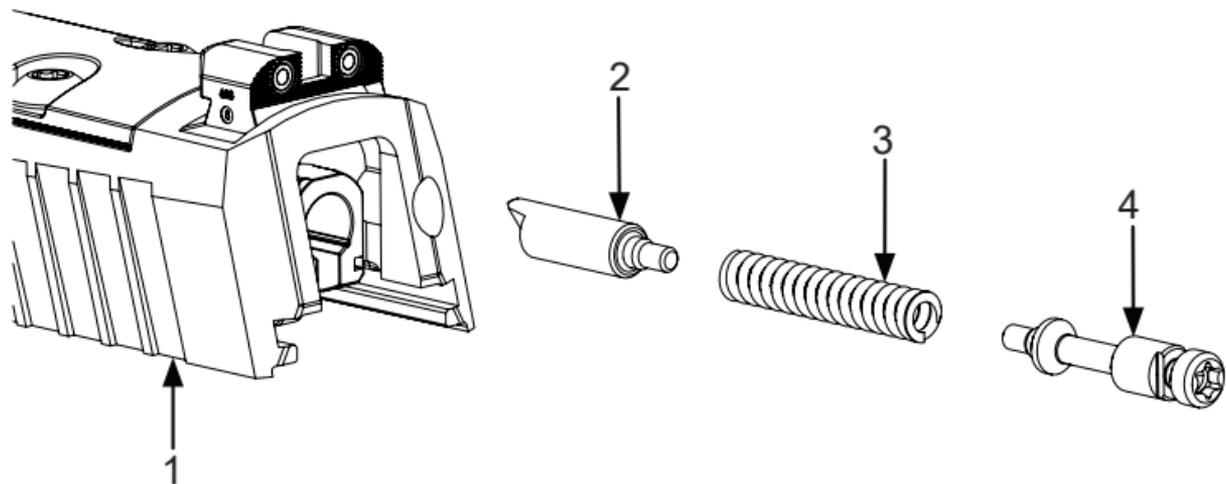

Figure 4. Extractor Pin Removal.
4. Remove extractor plus pin (Figure 4, Item 4), extractor spring (Figure 4, Item 3), and extractor pin (Figure 4, Item 2) from slide (Figure 4, Item 1).